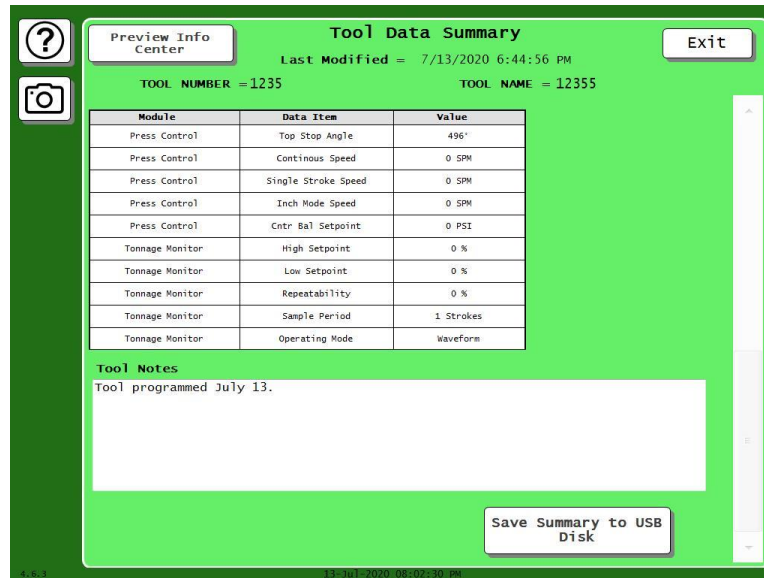

Figure 4-10. Tool Data Summary Screen, Scrolled to Bottom
At the bottom of the screen, to which you may need to scroll down, you can enter additional information in the Tool Notes area, Figure 4-10.
2. Scroll down to the bottom of the Tool Data Summary screen, Figure 4-10.